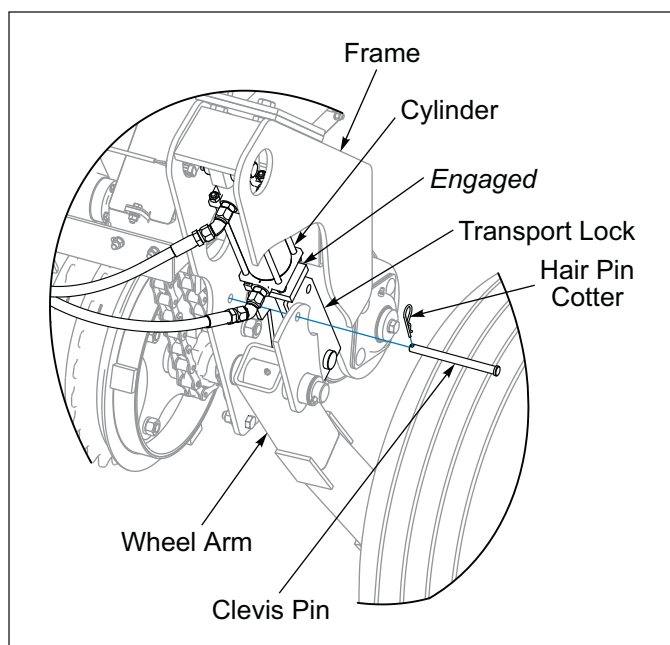

Figure 2-14: Transport Lock Engaged
6. Raise the Seeder and install Transport Locks. **See Figure 2-14.**